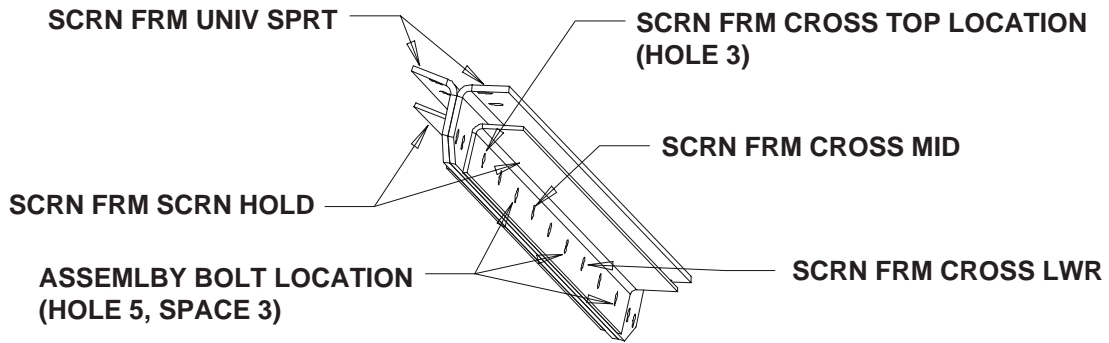

Fig. 4-1
1. Using the chart 4-1 provided on page (29) check the location of the associated components, and preassemble the required number of components as follows.
2. To make a Screen Support Assembly, bolt together two **SCRN FRM UNIV SPRT** angles with a **SCRN FRM SCR N HOLD** on either side using 3/8" x 1-3/4" Grade 5 bolts and flanged lock nuts for each required assembly. **Verify that the proper holes are selected** for future component installation and tighten these bolts. (See Fig. 4-1 - 4-3 and Chart 4-1 for locations.)